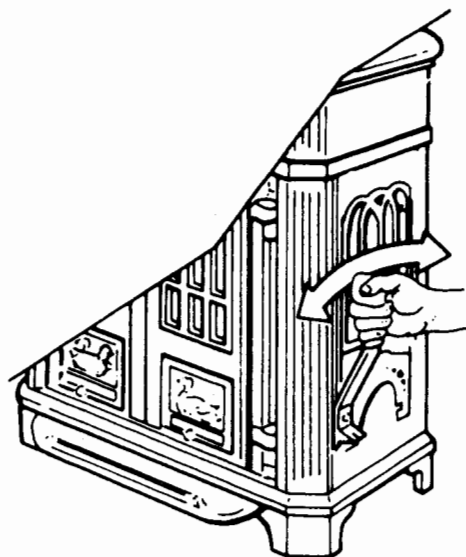

Fig. 4
a. Riddle the bottomgrate by engaging the operating tool on the riddling shaft, Fig.4 and rotate/reverse it sharply for about 10 strokes by which time the fire should be free of ash. Riddle the grate at least twice daily (more often if required) and always before refuelling.